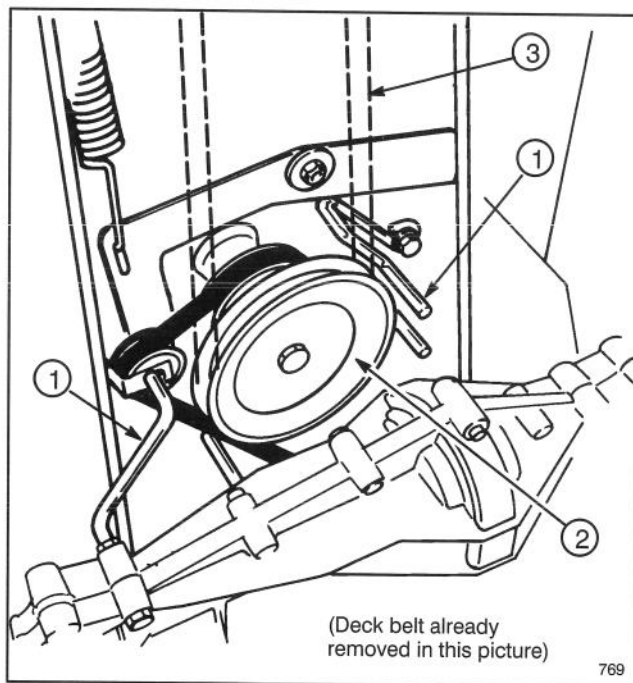

Figure 24
3. Loosen belt guides near engine pulley and rotate them out of the way. Remove deck belt from engine pulley (Fig. 24).
3. Loosen and remove (1) mounting screw securing each belt guide to cutting unit. Pivot belt guides away from spindle pulley and remove belt. Visually inspect belt for wear or damage (Fig. 24).
3. Remove deck belt from engine pulley (Fig. 24).